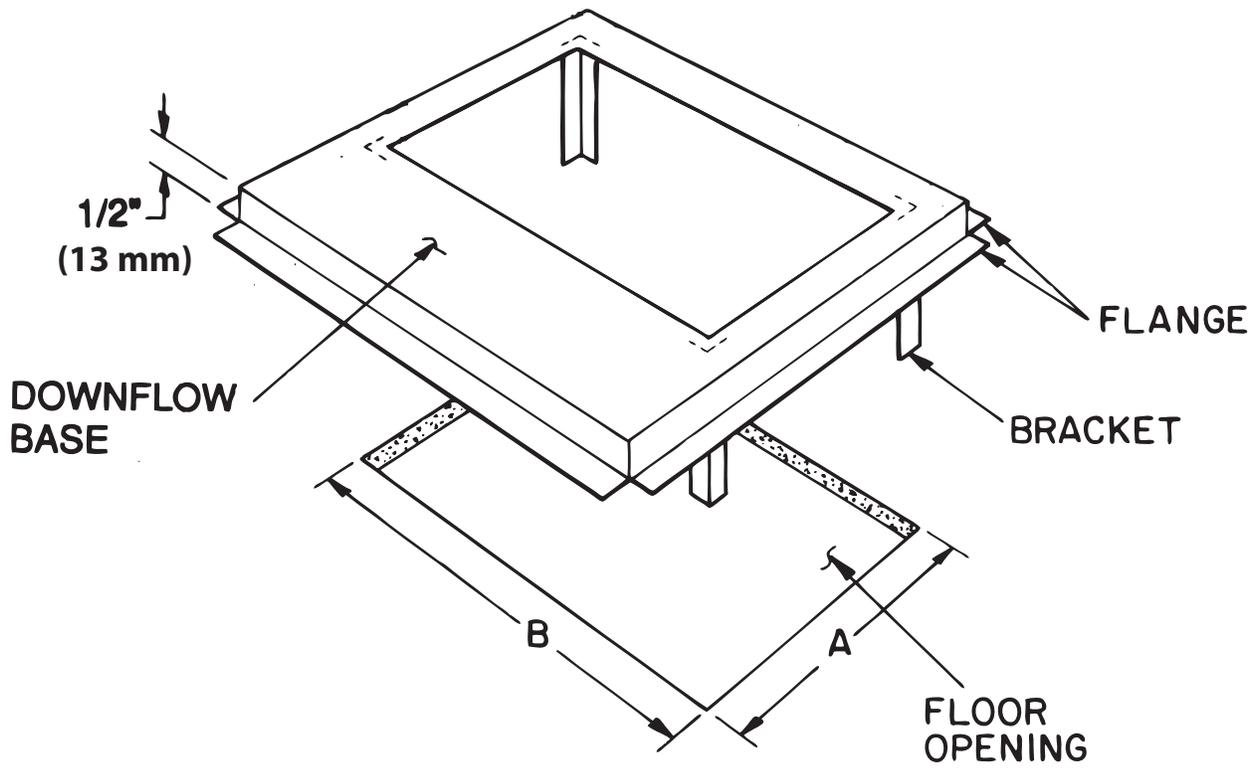

Fig. 1 - Downflow Base
1. Cut a hole in floor large enough for clearance of downflow base brackets. See Fig. 1 and Table 1 to determine clearance dimensions.